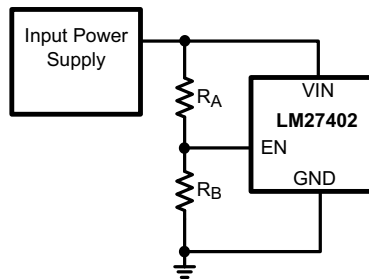

Figure 28. Enable Sequencing
If enable (EN) is not controlled directly, the LM27402 can be pre-programmed to turn on at an input voltage higher than the UVLO voltage. This is done with an external resistor divider from VIN to EN and EN to GND as shown in Figure 28.
The internal current source  $I_{CS-}$  is powered from the input voltage rail,  $V_{IN}$ . The minimum voltage required to drive that current source is 1 V from  $V_{IN}$  to  $V_{OUT}$ . If a low-dropout condition occurs where  $V_{IN} - V_{OUT} < 1$  V, the LM27402 may prematurely initiate hiccup mode. There are multiple options to avoid this situation. The first option is to enable the LM27402 after the input voltage has risen 1 V above the nominal output voltage as seen in Figure 28. The second option is to lower the comparator common-mode voltage shown in Figure 34 such that the  $I_{CS-}$  current source has enough headroom voltage.